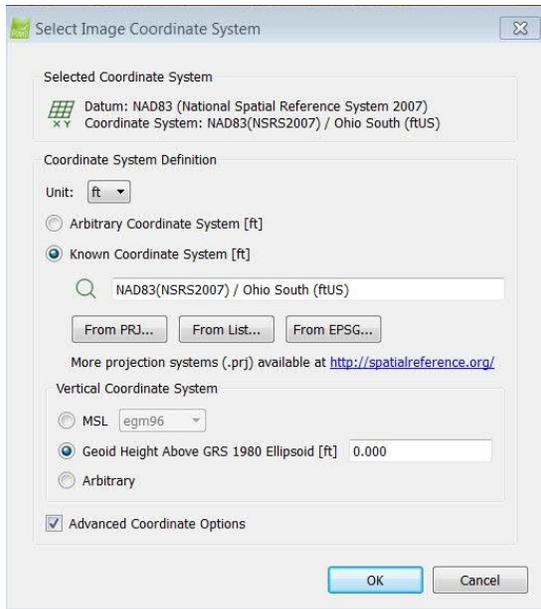

Figure 1 Selecting image coordinates system
- b. Use the "Advanced" option to setup the "geoid height above GRS 1980 ellipsoid" to "0.0", see Figure 1.